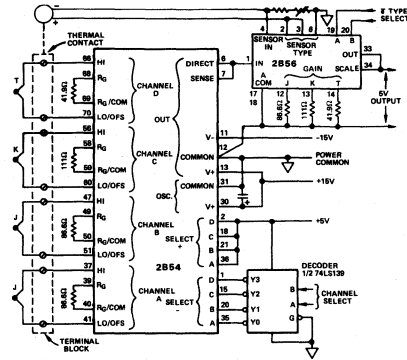

Figure 12. Four-Channel Thermocouple Temperature Measurement with Cold Junction Compensation
**Thermocouple Temperature Measurement:** Figure 12 shows a four-channel thermocouple input system with isolation, amplification, and multiplexing provided by the 2B54. Several different thermocouple types are used, and the gain-setting resistors on each channel have been chosen to take the standard ANSI range for each type to a 5V output span. Since